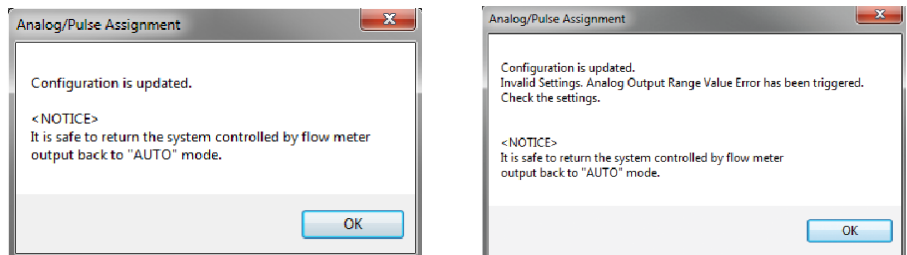

Figure 2.4—Configuration Updated notice (left) and Range Value Error notice (right)
- When the configuration change has been applied successfully, a *Configuration Updated* notice (Figure 2.4, left) will appear. Click **OK** to acknowledge.
Note If changes to the analog/pulse assignment result in out-of-range analog/pulse output(s), the transmitter will detect the Range Value Error. In this case, the notice will indicate the Range Value Error (Figure 2.4, right). Review and correct the configuration to eliminate the error condition.